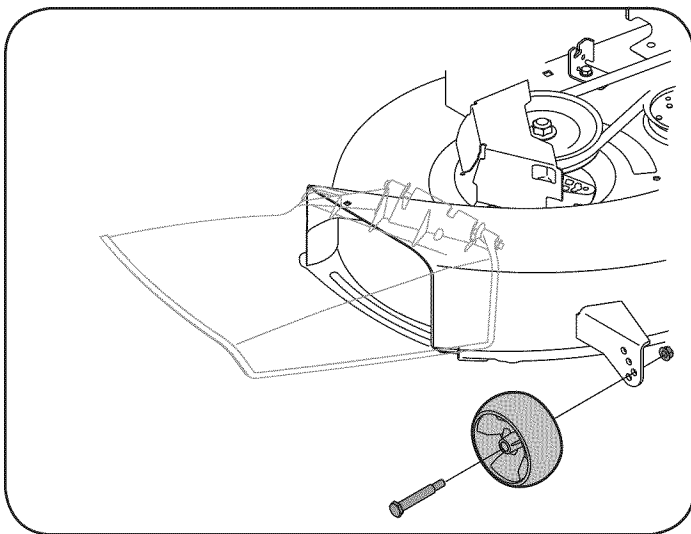

Figure 9
3. Adjust the deck wheels by removing the flange lock nut and shoulder bolt that secures each wheel and moving it into one of the holes that allows the wheels to be between ¼-inch and ½-inch above the ground when the tractor is on a smooth, flat surface such as a driveway. See Figure 9.